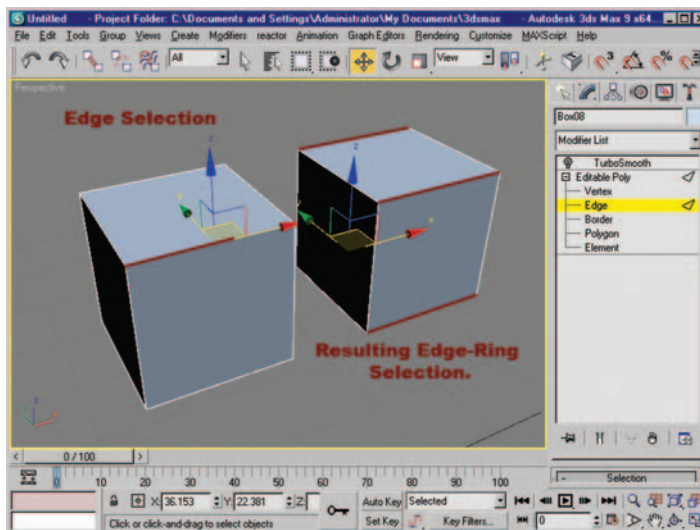

Figure 6.10 Edge selection and resulting ring selection.
- As in the previous example, make an edge selection, and then use Alt+R or Ring to create a ring selection from the edge (Figure 6.10).